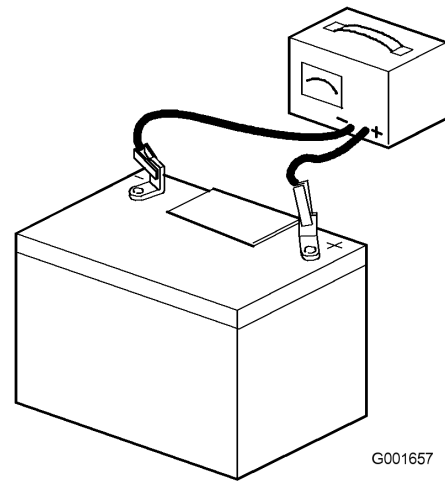

Figure 40
2. When the battery is fully charged, unplug the charger from the electrical outlet, then disconnect the charger leads from the battery posts (Figure 40).